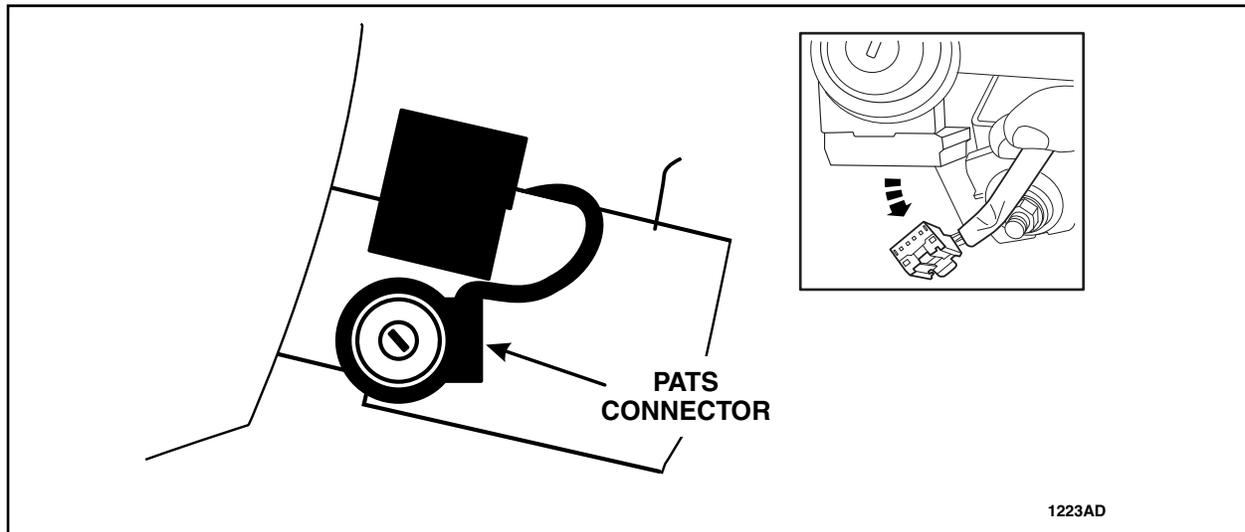

FIGURE 7
11. If equipped, disconnect the Passive Anti-Theft System (PATS) transceiver electrical connector. Remove the harness pin-type retainer and position the harness aside. See Figure 7.
35. If equipped, connect the PATS transceiver electrical connector. Reposition the harness and install the pin-type retainer. See Figure 7.